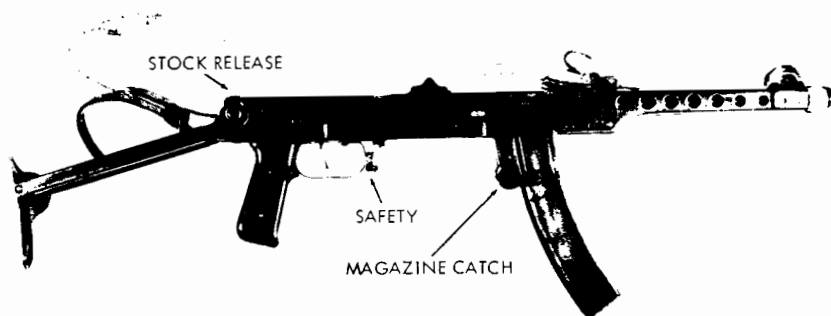
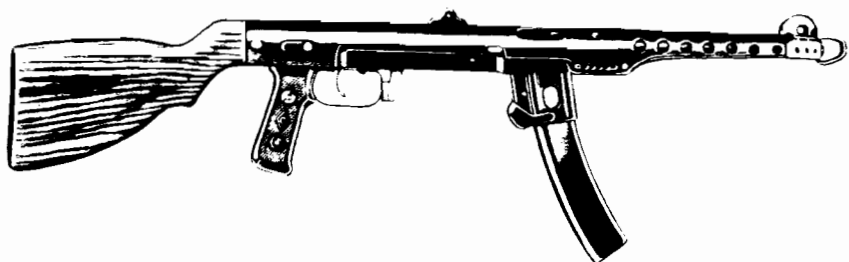

Figure 17. 7.62-mm submachinegun Model 1943 (PPS-43).
Figure 18. Polish 7.62-mm submachinegun Model 43/52.
a. The Model 1943 submachinegun (fig. 17) was produced during World War II by the Soviet Union, primarily for paratroopers who found the fixed-stock PPSH-41 too unwieldy for airborne operations. The PPS-43, now obsolete in the Soviet Army, is still used by many Eurasian Communist countries and has been manufactured in Poland as the Model 43/52 submachinegun and in Communist China as the Type 43 Copy submachinegun; this latter weapon has often been erroneously referred to as the Type 54 submachinegun. Except for markings, the Soviet and the ChiCom guns are identical; the Polish Model 43/52 is readily recognizable by its lengthened receiver and its fixed wooden butt (fig. 18).
- b. While the gun can be fired with the stock folded, best results are obtained by using the stock to brace the weapon. Depress the button (fig. 17) at the top rear of the receiver; grasp the buttplate and pull the stock assembly up and back until it locks in position. Then rotate the buttplate into position.
- d. The safety (fig. 17) can be applied by pressing its finger-piece (alongside the trigger guard) rearward and upward. A reversal of this motion takes off the safety.
- f. Remove the magazine by pressing the magazine catch (fig. 17) forward and withdrawing the magazine.